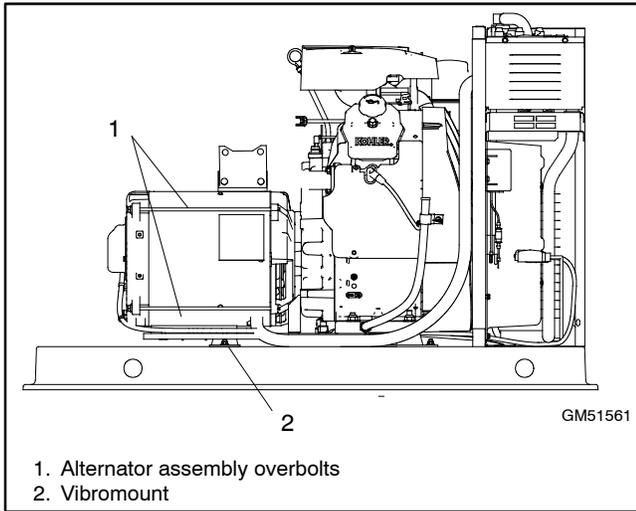

Figure 6-22 Generator Set, Right Side
- d. Lower the end of the generator set and reinstall the screws and washers that secure the vibromount mounting plate to the generator set skid. See Figure 6-22.
- 5. Tighten the four alternator assembly overbolts to 7 Nm (60 in. lb.). See Figure 6-22.